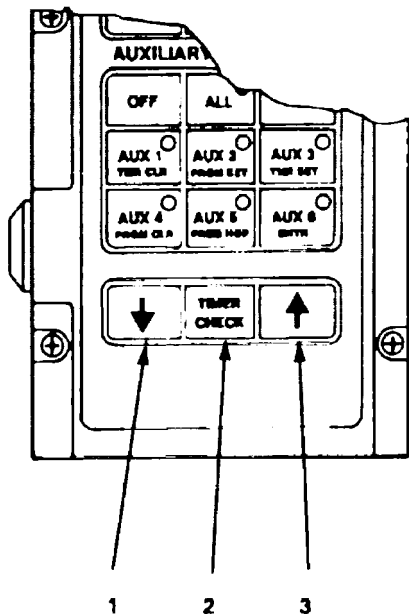

Figure 2-8. T/C Channel Increase, Decrease, and Timer Check Switches
f. Channel Increase, Decrease, and Timer Check Switches. (See Figure 2-8.)
- (1) Channel Decrease Switch. During T/C programming, pressing the down arrow switch decrements transmitter channel.
- (2) TIMER CHECK Switch. Used to check the time remaining before turn on in the timer mode.
- (3) Channel Increase Switch. During T/C programming, pressing the up arrow switch increments transmitter channel.